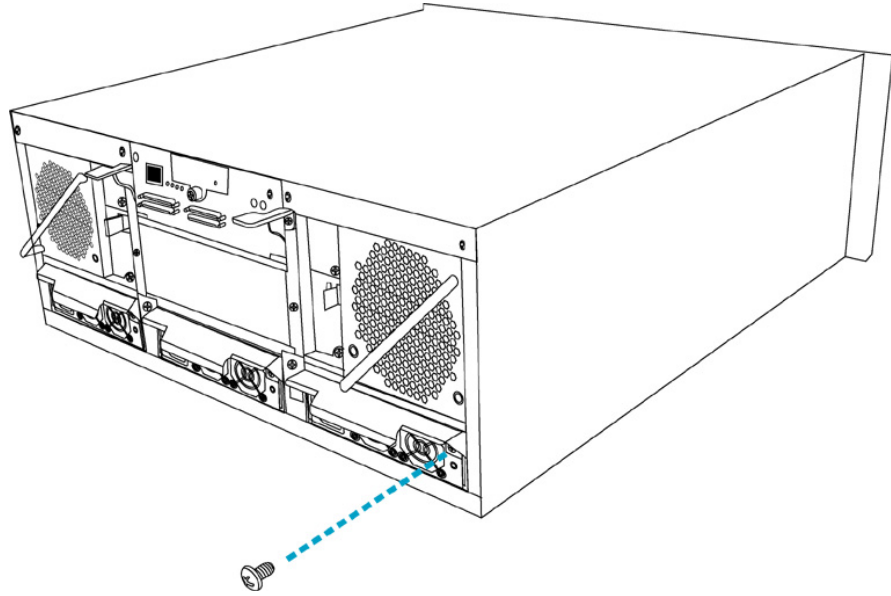

Figure 5-7: Removing the PSU Retention Screw
-  Step 2. *Remove the retention screw* located on the right side of the PSU. (See *Figure 5-7.*)